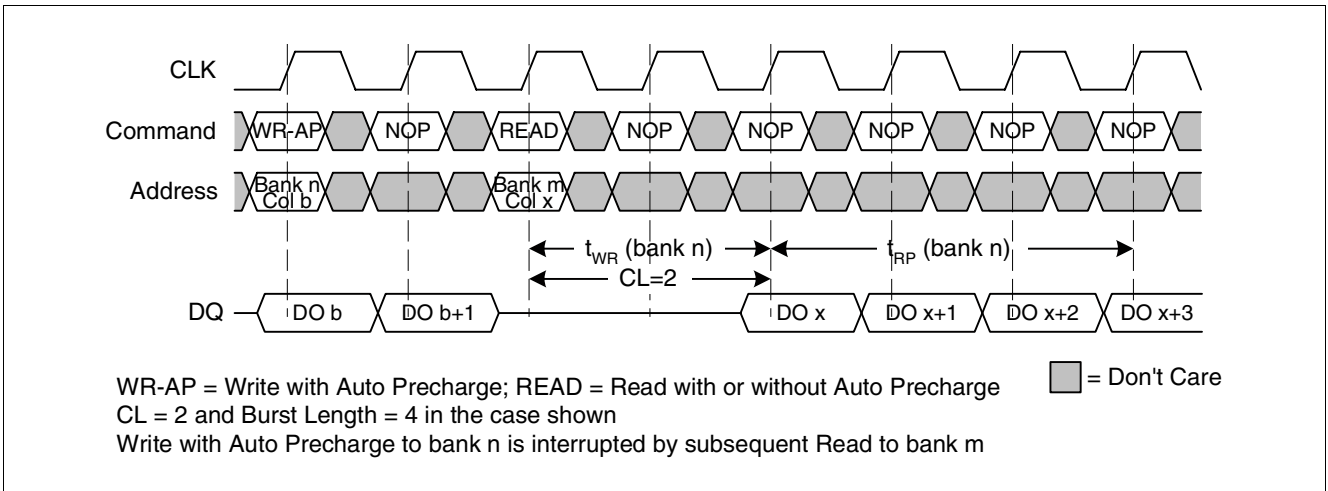

Figure 39 WRITE with Auto Precharge Interrupted by READ
**Figure 39** shows a WRITE with Auto Precharge to bank n, interrupted by a READ (with or without Auto Precharge) to bank m. The precharge to bank n will begin  $t_{WR}$  after the new command to bank m is registered. The last valid data-in to bank n is one clock cycle prior to the READ to bank m.